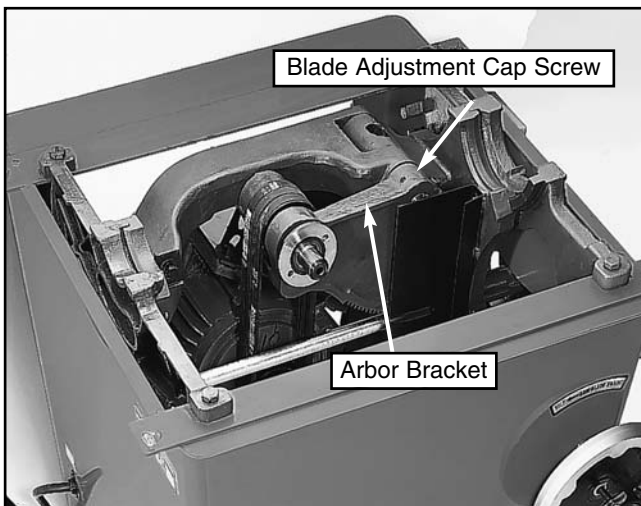

Figure 30B. Adjusting arbor bracket.
3. Loosen the blade adjustment cap screw shown in **Figure 30B**.